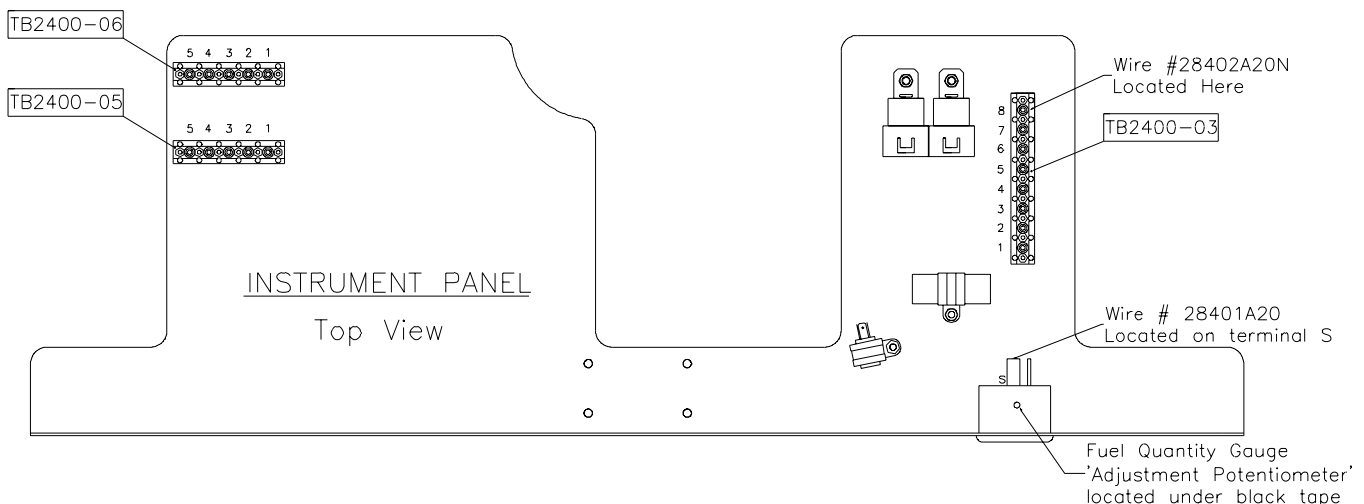

Figure 2.
- 10.2.7 Remove ground wire #28402A20N from Ground Bus TB2400-03 Terminal #8 (Ref. Figure2.).
**10.2.8** Disconnect the signal wire #28401A20 from the fuel quantity gauge. Using a calibrated Ohm Meter, measure the resistance between the fuel signal wire # 28401B20 and the ground wire #28402A20N. See figure 2.
**10.2.14** Adjust the fuel quantity gauge calibration potentiometer, shown in figure 2, so that the needle edge is one needle width below the 0 index mark as shown in figure 3a. Tap the fuel quantity gauge lightly, while adjusting, to remove any friction error.